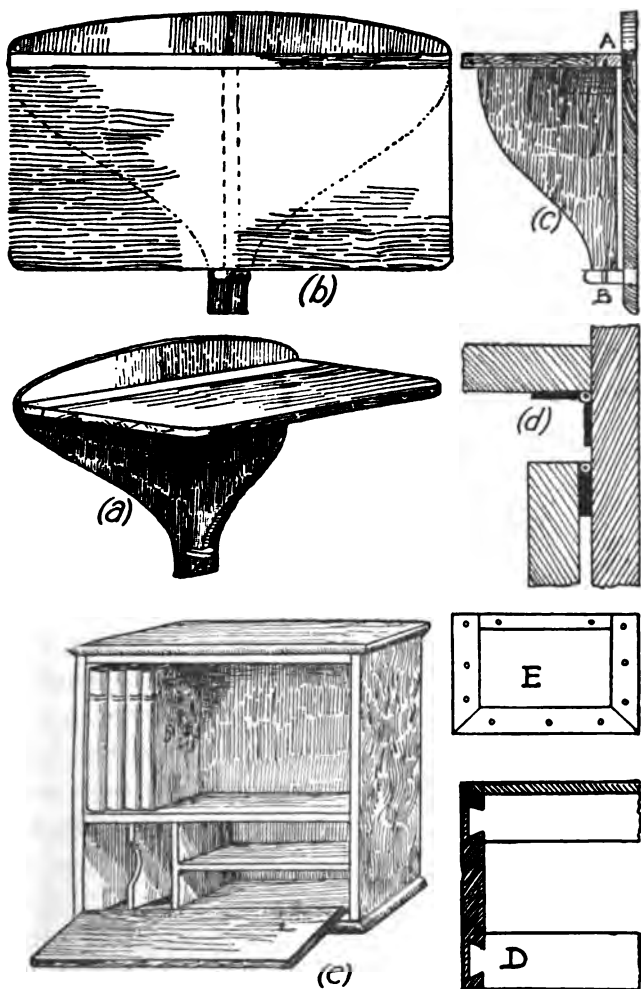

Fig. 15.—(a-d) Hall flap ; (e) stationery case and bookshelf.
A shelf or "flap" which can be let down is particularly convenient in a hall or near a dining-room door, where a permanent shelf might be a serious obstruction to traffic. Fig. 15, *a*, is a sketch of the flap with the shelf up, and Fig. 15, *b*, a front elevation with the shelf down, the dotted line showing the shape of the bracket when it is turned back, either to right or left.
There must be a hinging-piece (A in Fig. 15, c), 1 in. wide, and of the same thickness as the flap which is hinged to it. This piece, screwed on through the back, provides the necessary recess for the bracket when the flap is down. The bracket itself can be fixed in two ways : either (1) by simply hinging it on to the back with two ordinary butt hinges—this is not the strongest way—or (2) by inserting a dowel-pin top and bottom to engage with holes bored in the hinging-piece, A, and in a small piece tenoned or screwed through the back at B. In this case the back edge of the bracket must be rounded off to allow it to revolve.
If the bracket be pinned it will swing back on either side, whereas hinges allow it to move in one direction only. Fig. 15, d, shows how the hinges—2-in. brass butts—are fixed to the bracket and back when centre-pins are not used. The back piece may be left square or shaped like the bracket ; the corners of the flap should be rounded off, so as not to catch on things. Two brackets for a longer flap can be fixed in exactly the same way, but must be hinged or pinned near the ends, and swing inwards without overlapping.
This kind of case is extremely handy for standing on a table (Fig. 15, e). If made large enough, the flap serves as a writing-table, but the article shown